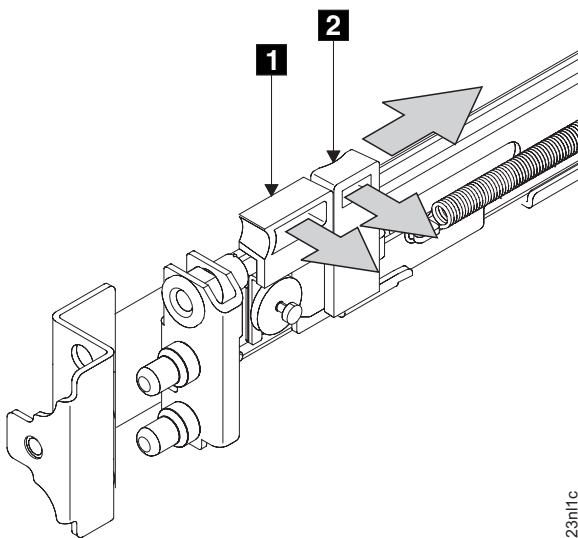

Figure 60. Opening the front latch-lock carrier assembly
3. Gently push the latch lock **2** away from the rail as you move the latch lever **1** toward the far end of the rail (Figure 60). The latch-lock carrier assembly slides against the spring tension.